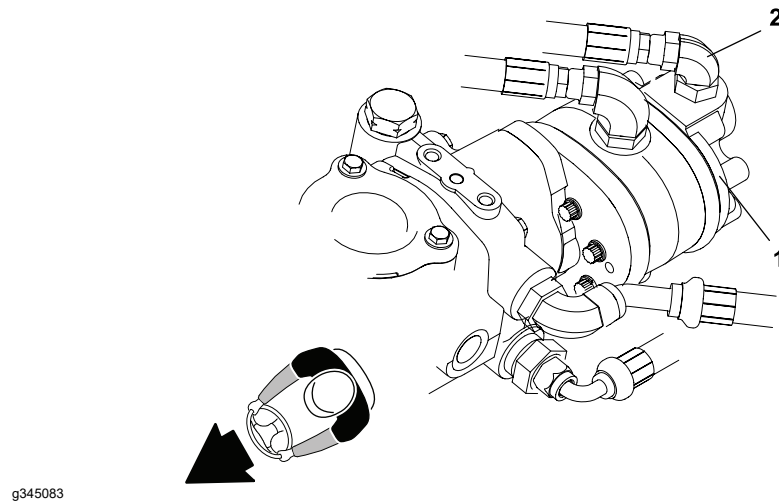

Figure 59
3. Install a T-connector with a pressure gauge between the gear pump and the hydraulic hose connection on the gear pump (P2) (Figure 59).